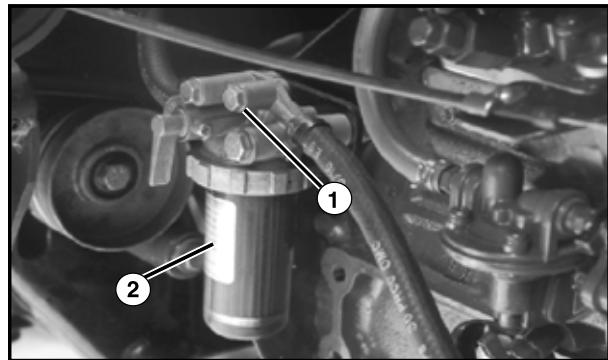

Figure 9.15.1
- 2. Open the air vent on top of the fuel filter (See Fig. 9.15.1).